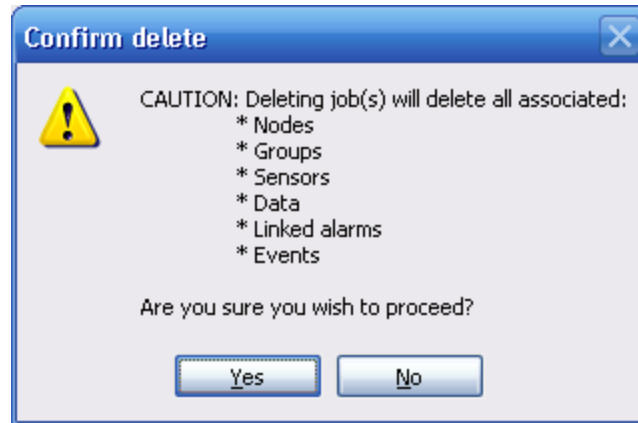

Figure 5-4 - Delete confirmation dialog
4. Accept or reject the delete confirmation dialog (see FIGURE 5-4)